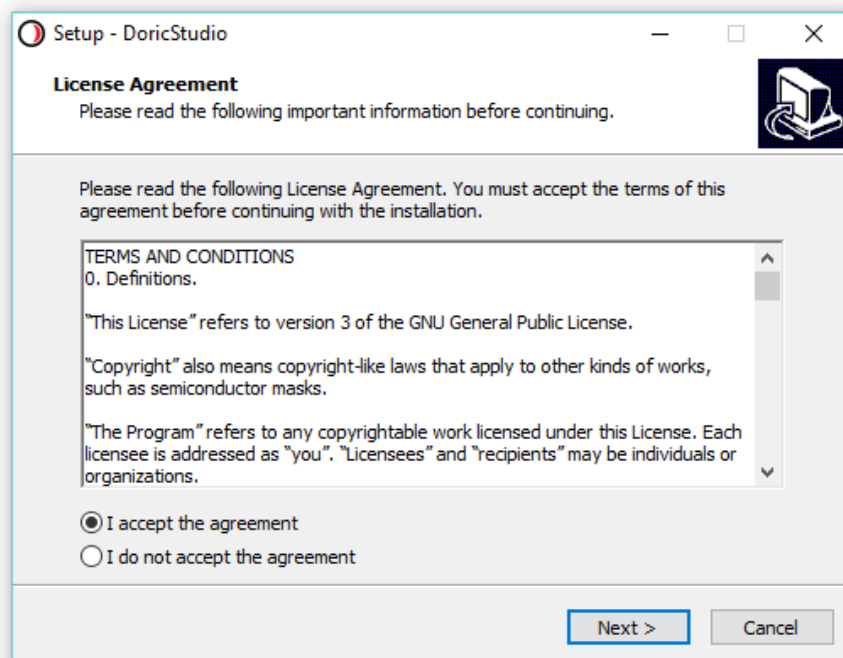

Figure 2.1: Doric Neuroscience Studio License Agreement
3. In the license agreement window (Fig. 2.1), accept the agreement and click **Next** to continue the process.